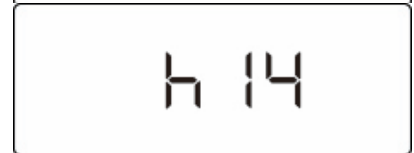

Figure 6-6
**Figure 6-6** h14 stands for 2:00 PM (24-hour clock)